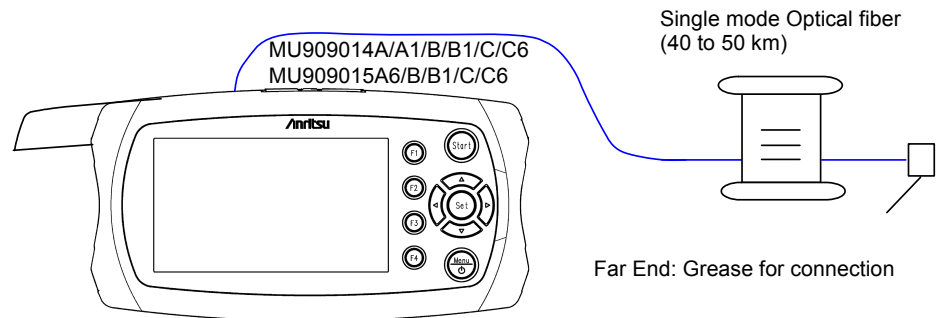

Figure 11.1.6-1 Linearity Measurement Connection Diagram
1. Connect the modules as shown in Figure 11.1.6-1.